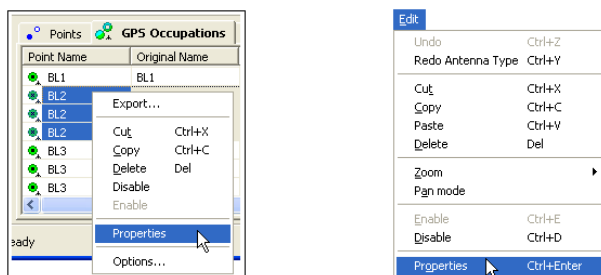

Figure 5-4. Ways to Open the Properties Dialog Box
2. Right-click the selected occupations and click **Properties** on the pop-up menu, or click **Edit ► Properties** (Figure 5-4).